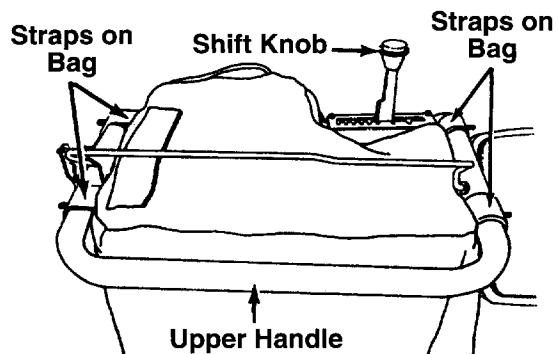

FIGURE 7.
**NOTE:** To determine right and left hand sides of your chipper-vacuum, stand behind and face the unit (Refer to figure 7).
- Place the four straps on top of the bag over the upper handle, hooking them on the studs. See figure 7. Make sure that the bag goes under the drive clutch handle.